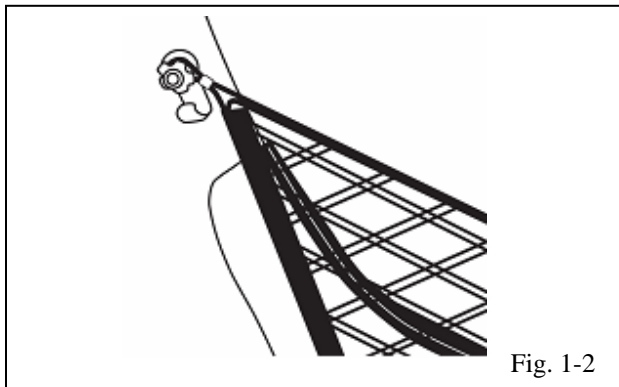

Fig. 1-2
- (b) Attach loop at the top of the net to the vehicle anchor as shown (Fig. 1-2).